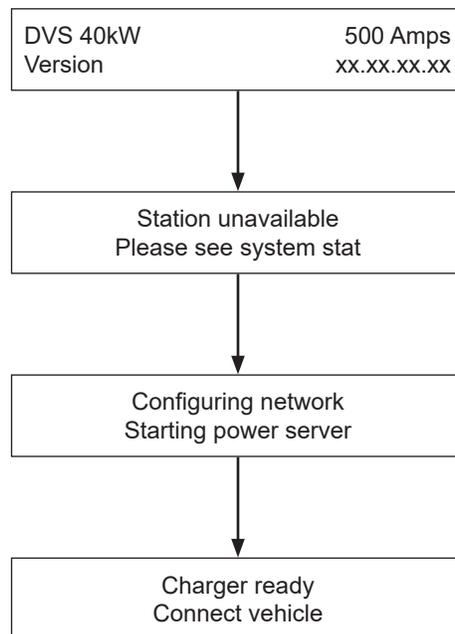

Figure 6 – Startup Windows
- A) Power ON the system and wait for it to complete initialization tests. The display shows the startup windows (Figure 6).
The DVS is ready to be powered on once it has been properly installed (mechanically and electrically). The system performs a lamp test when first powered on. The display then shows the initial status window containing the model number and software version. The system then sequences through two more status windows before reaching the Charger Ready Connect Vehicle window (Figure 6). The windows for each charge port alternate when initialization is complete.